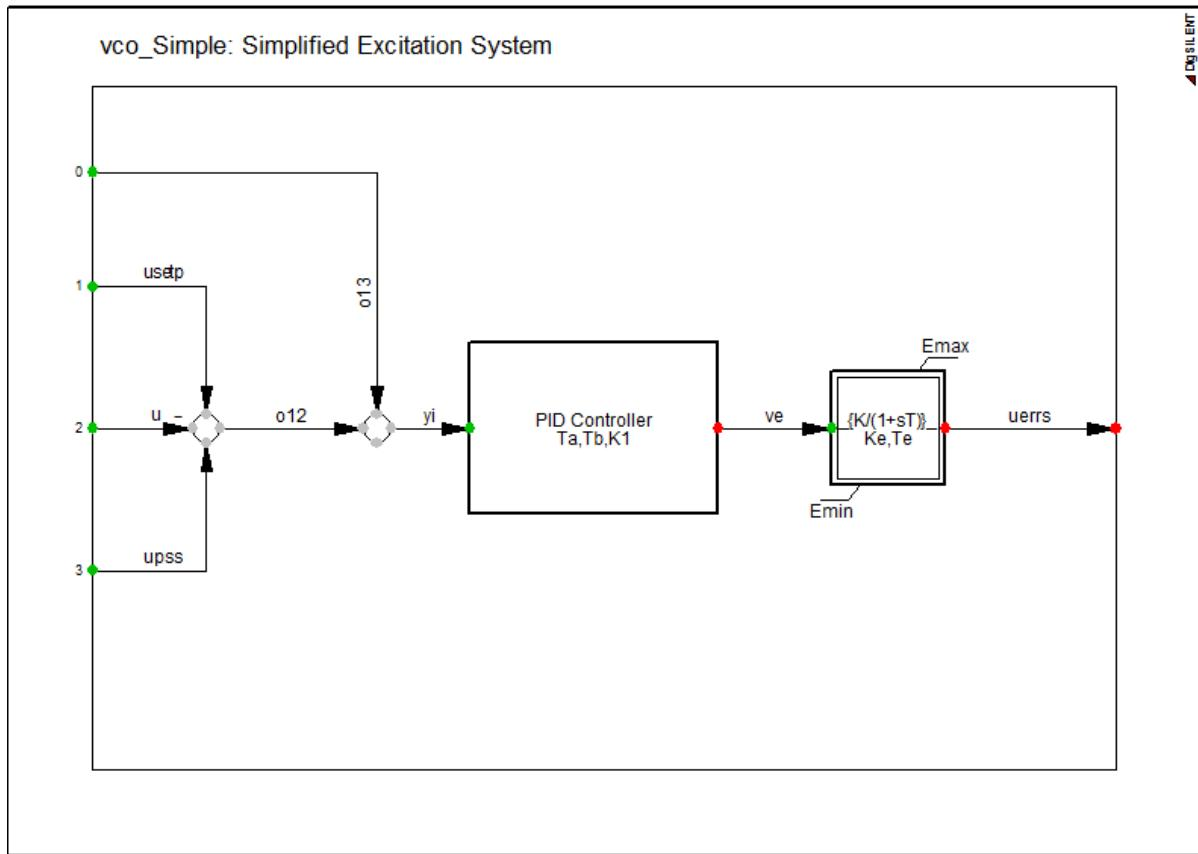

Figure 30.1.6: Example of a Model Definition “vco\_simple”
- The common model has a reference to the **Model Definition** (*BlkDef*), which looks similar to the composite frame (shown in Figure 30.1.6). Here different blocks are defined and connected together according to the diagram. The input and output variables have to fit with the slot definition of the slot that the model is defined for.
Selecting a model definition from the project library or the global library will open the element dialog of the newly-created common model, so that its parameters can be defined, similar to (for example) a transformer element. If no suitable model is found, a Block Definition has to be selected prior to setting the model parameters (see Section 30.1.2 (The Composite Frame) and Figure 30.1.6).